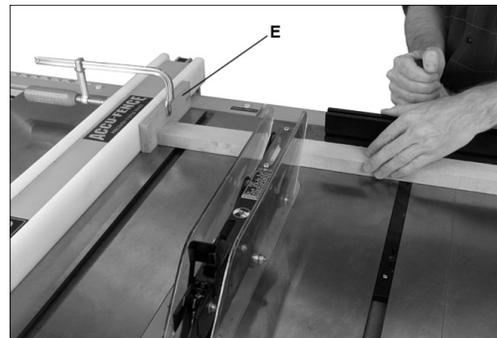

Figure 9-8
- ❑ Do not use miter gauge and rip fence in the same operation unless provision is made by use of a facing board on the fence, to allow the cutoff section of workpiece to come free before the actual cut begins (See Figure 9-8).
Crosscutting should **never** be done freehand nor should the fence be used as an end stop unless an auxiliary block (E, Figure 9-8) is clamped to the front of the blade area such that the cutoff piece comes free of the block before cutting begins.